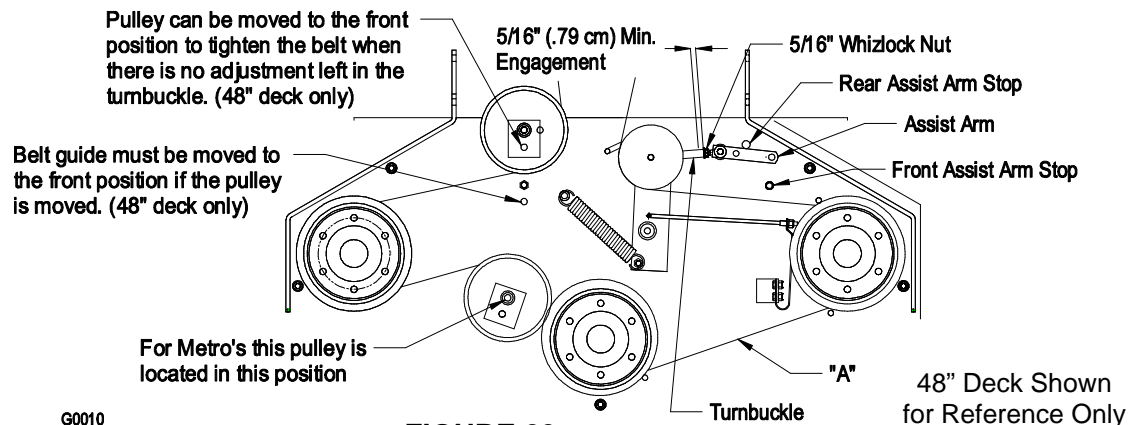

FIGURE 20
- c) Belt must be tight enough to not slip during heavy loads while cutting grass. Overtensioning will reduce belt and spindle bearing life. To adjust belt tension, loosen the 5/16" whizlock nut on turnbuckle and rotate the turnbuckle; rotate turnbuckle toward rear of mower to tighten, and toward front of mower to loosen belt tension (See Figure 20). Leave a minimum of 5/16" (.79 cm) of the eyebolt threads engaged on both ends of the turnbuckle.
For 48" Decks: If there is no adjustment left in the turnbuckle and the belt is still loose, the rear idler pulley can be repositioned in the front hole (See Figure 20). The belt guide located next to the pulley must also be repositioned in the front hole when the pulley is moved. The turnbuckle will need to be readjusted.
- d) Proper belt tension will require about 10 lbs. side pull on belt, halfway between pulleys (See Figure 20, Point A) to deflect belt 1/2" (12 mm).